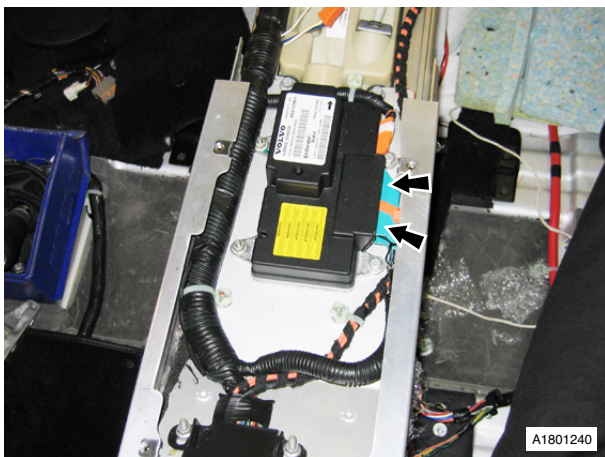

Fig. 26
62. Disconnect Airbag module (x2) multiplugs (see Fig. 26).